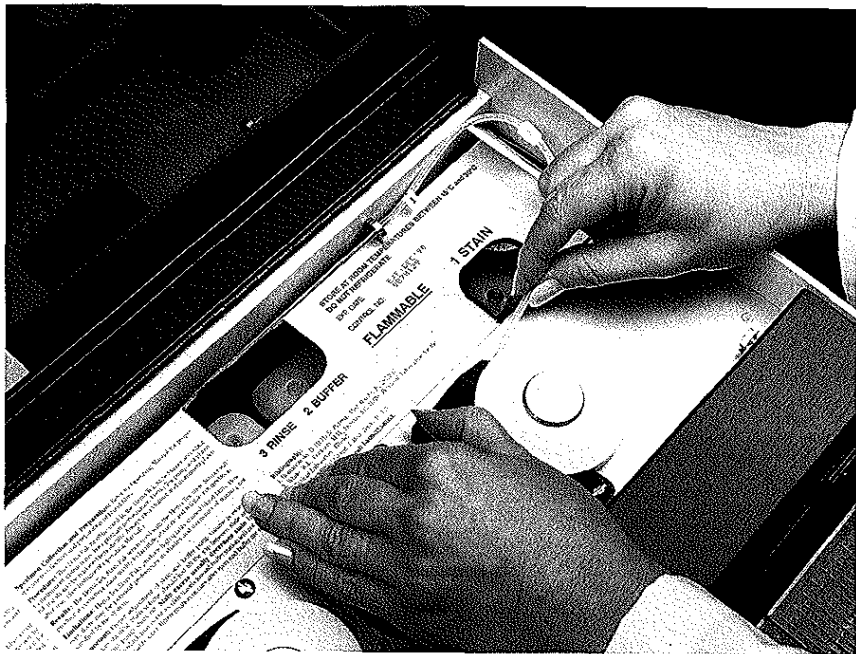

Figure 8-8
8. Extend the new tube to its respective pump and thread the end into the hole in the pump arm. Push the thumb tab to the extreme left as before and push the tube through (Figure 8-8) until the plastic cuff is flush against the pump arm. Release the pump arm.